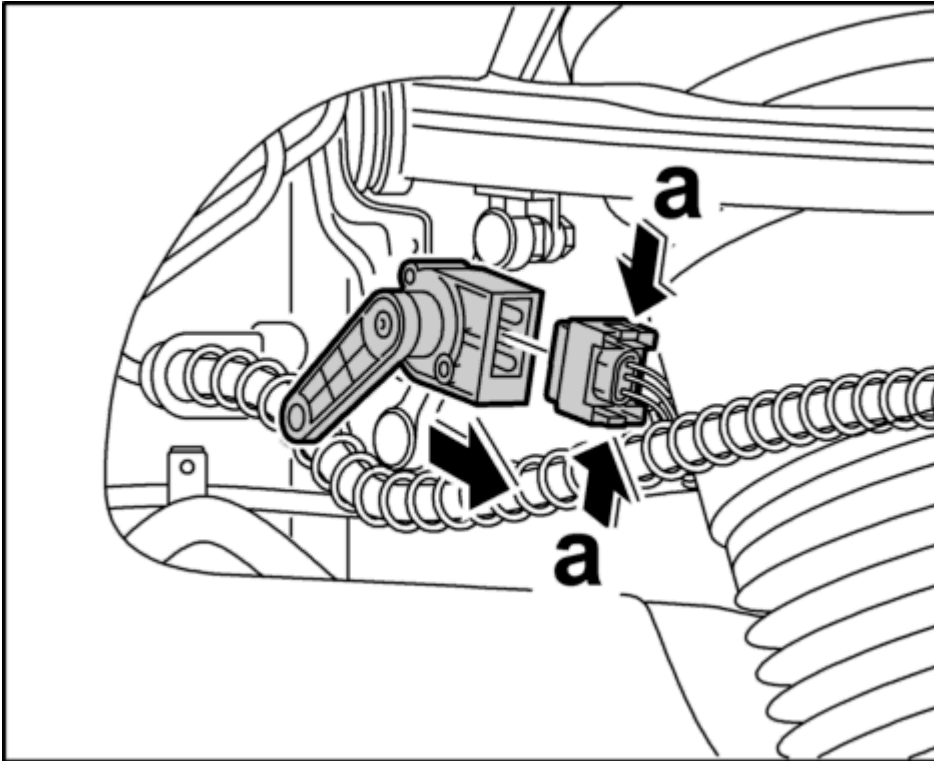

Fig. 10: Disengaging lever from self-levelling sensor
4. Press the electric connector together -a- and pull it off. See **Fig. 10**.